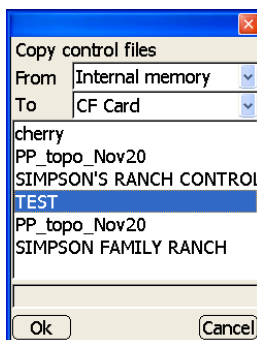

Figure 3-6. Copy Control Files
- **Copy** – copies a file either from the Internal memory, Network, or CF (Compact Flash) Card, to the Network or CF Card. The touch screen lists all files available for copying. To copy a file, select a file, then press **Ok** (Figure 3-6).